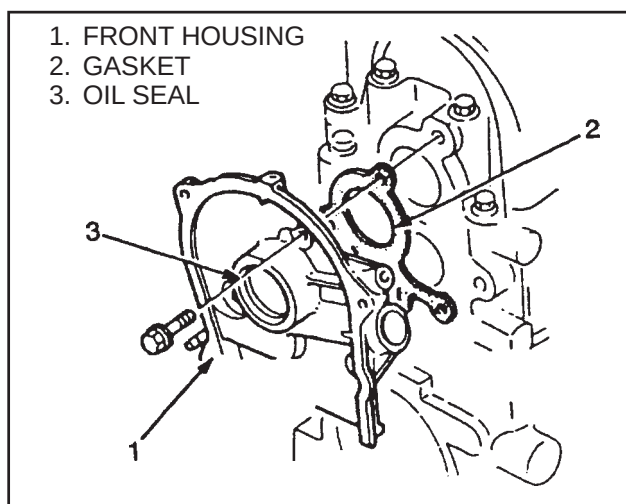

FIGURE 22. FRONT HOUSING
12. Remove the nuts and capscrews for the front housing, then remove the housing. See FIGURE 22.
8. If necessary, install the oil seal in the front housing. See FIGURE 22. Install the front housing and a new gasket on the cylinder head. Tighten the capscrews for the front housing to 19 to 25 N.m (190 to 260 kgf·cm).